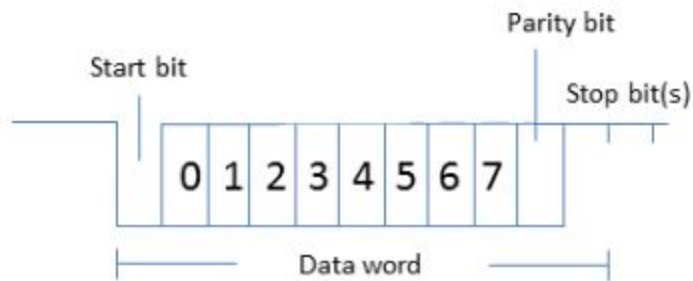

Fig. 3
- Following figure(Fig. 3) shows a standard example of data transmitted through a UART.